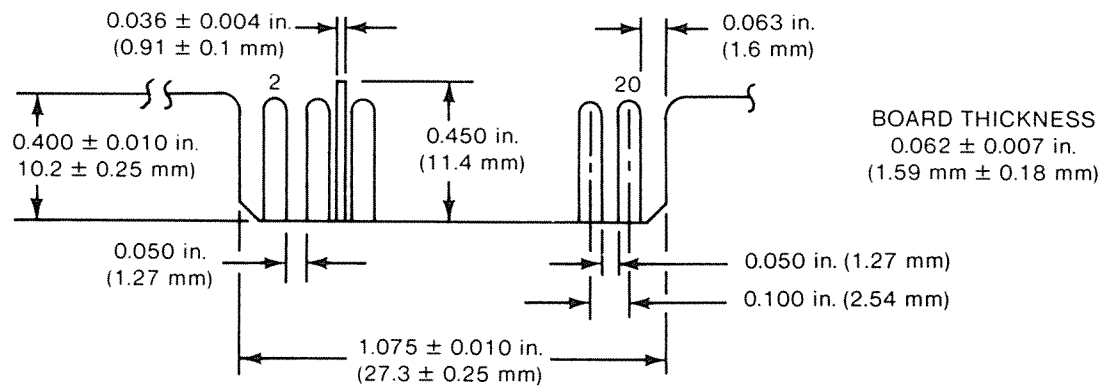
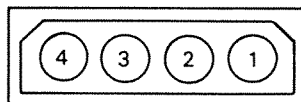

FIGURE 3-3
FIGURE 3-4
data signals (see Figure 3-3). J3 provides for D.C. power (see Figure 3-4).
Connection to J2 is through a 20-pin circuit board edge connector. Figure 3-3 contains the dimensions of this connector. The pins are numbered 1 through 20. The even pins are located on the component side of the circuit board. The recommended mating connector for P2 is 3M ribbon connector P/N 3461-0001, without ears. A key slot is provided between Pins 4 and 6.
D. C. power connector J3 is a four-pin AMP Mate-N-Lok connector, P/N 350211-1, mounted on the solder side of the circuit board. The recommended mating connector, P3, is AMP P/N 1-480424-0, utilizing AMP pins P/N 60619-4. J3 pins are labeled on the J3 connector (see Figure 3-4). J3 cabling must be 18 AWG, minimum.